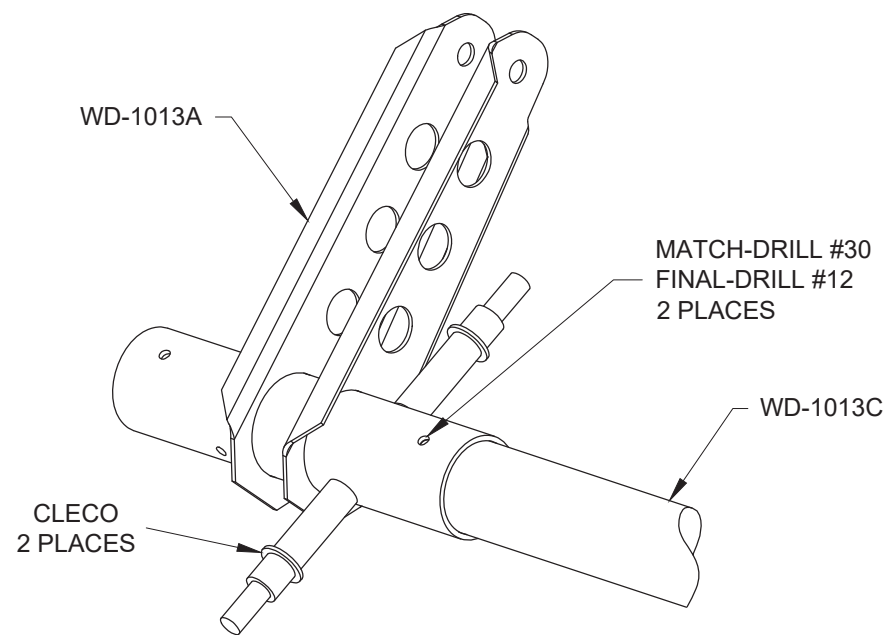

FIGURE 3:
Step 3: Cleco the WD-1013C Flap Torque Tube to the inboard most set of holes in the WD-1013A Flap Crank as shown in Figure 3. Match-Drill the flap torque tube as per the call-out. Match-Drill both 1/8 diameter holes from the outside in, using the pre-drilled holes in the flap crank as guides.